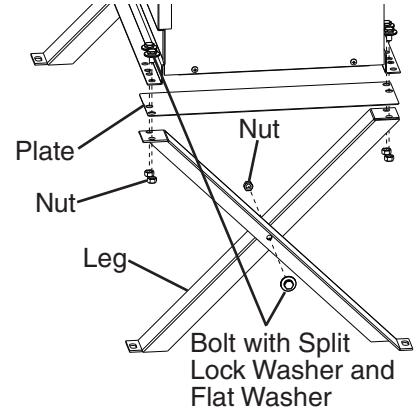

Fig. 13
- 1) Assemble 2 sets of legs using the legs, bolts, and nuts provided. See Fig. 13.